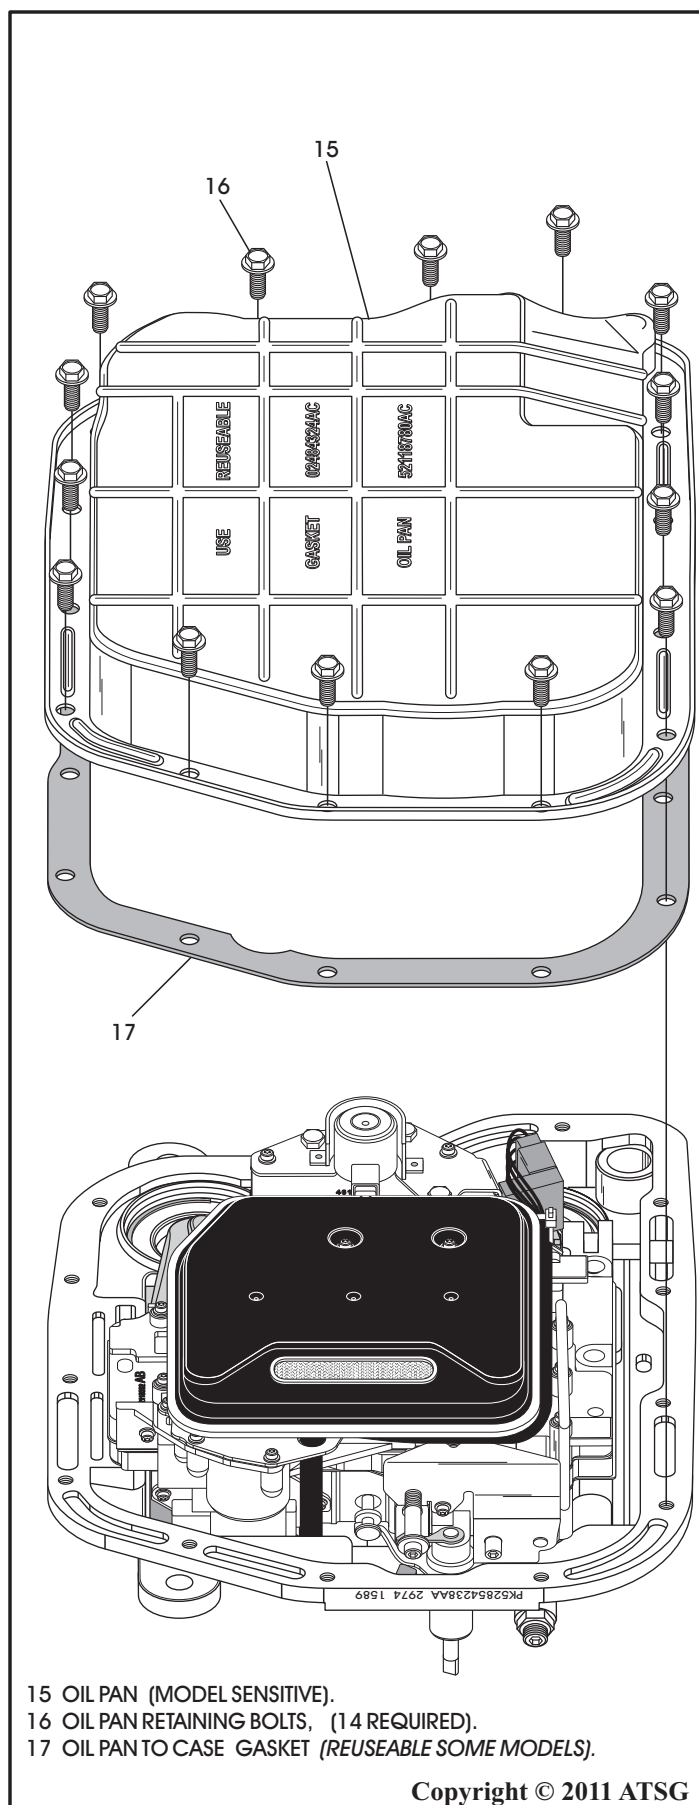

Figure 69
21. Set transmission on flat work surface with the oil pan facing up, as shown in Figure 69.
22. Remove the 14 oil pan retaining bolts, as shown in Figure 69.
23. Remove the oil pan, as shown in Figure 69.
24. Remove and discard the oil pan to case gasket, as shown in Figure 69.